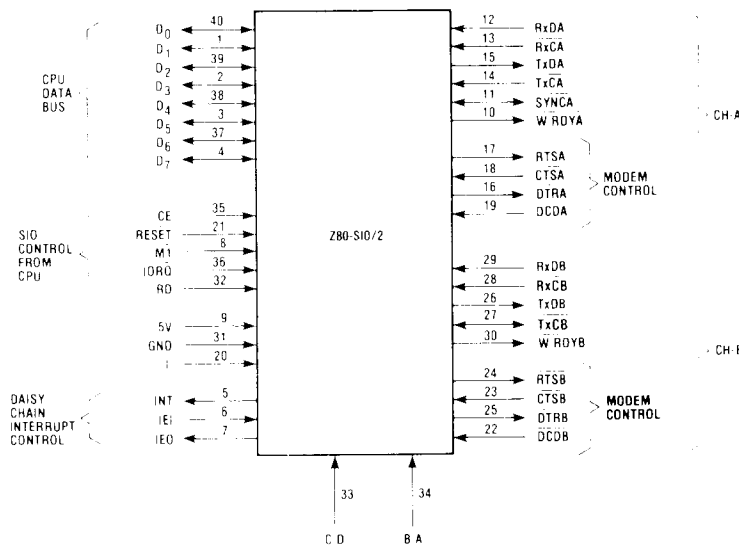

Figure 3. Z80-SIO/2 Pin Configuration
- Z80-SIO/2 sacrifices $\overline{\text{SYNCB}}$ and keeps $\overline{\text{TxCB}}$, $\overline{\text{RxCB}}$ and $\overline{\text{DTRB}}$ (Fig. 3).